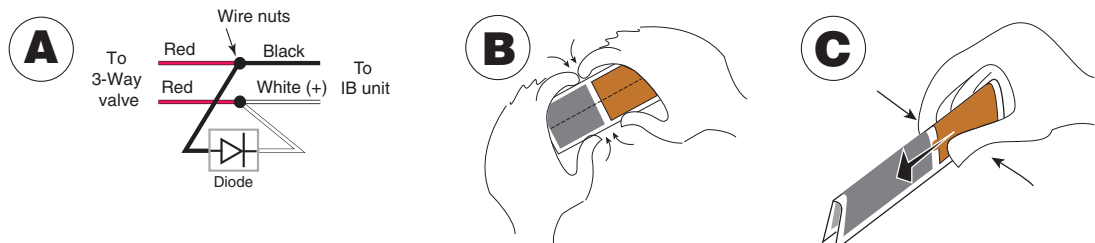

Figure 25. Connecting 3-Way Valve To Neptune Meter - Truck LP Gas Installations
1. On the valve, install a rigid metal conduit nipple in the threaded opening, provided for the solenoid wiring. Run the two red wires from the 3-way valve, through the nipple and into a metal junction box. Mechanically attach the valve/nipple combination to junction box as shown in Figure 25. *Even though the 3-way valve will operate in any position, it will last longer and perform best if mounted vertically upright (port 3 up).* Secure the junction box to the vehicle's frame.
3. Using the wire nuts, connect the stripped wires from the IB box to the 3-way valve wires (see Figure 25). There is no polarity to the 3-way valve's wiring. Seal the wire nuts with epoxy sealant using one bag for both wire nut connections and place bag in junction box (see Figure 25).
Connect a hose from line pressure to port 3 (normally open port) of the 3-way valve (see Figure 25). On some systems, line pressure is available at an opening in the vapor eliminator housing. Connect another hose from the 3-way valve's port 1 (normally closed port) to the air eliminator. Connect a third hose from the 3-way valve's port 2 (common port) to the differential valve.